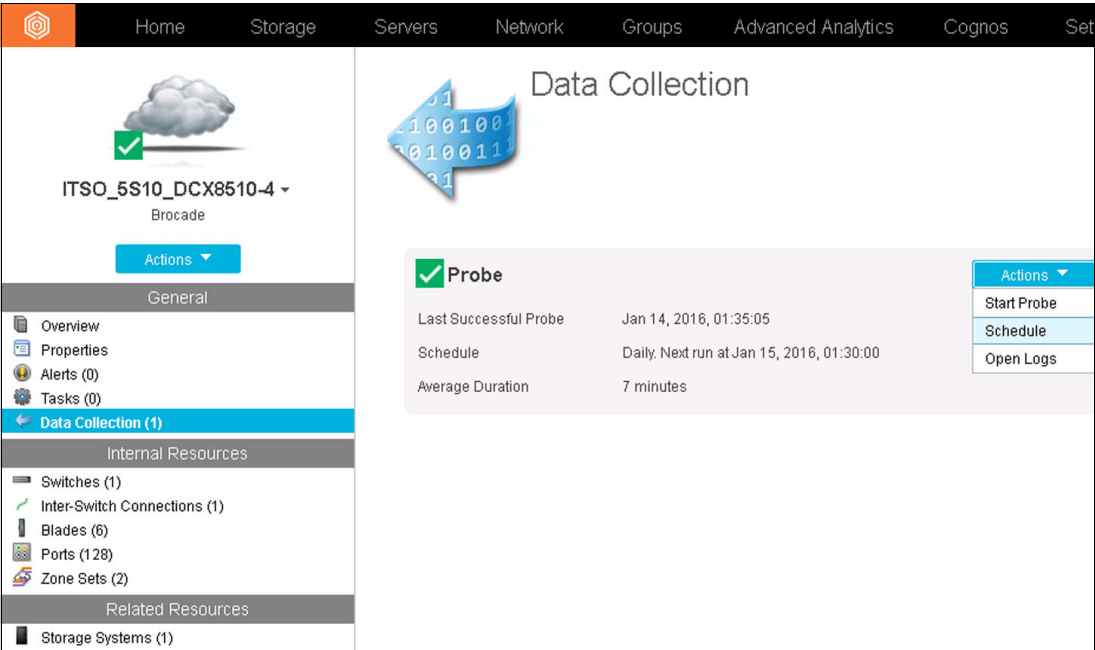

Figure 6-31 Main view of the Data Collection section
- Data Collection: Presents information about the different data collection jobs for the fabrics in your environment. You can view the status of the most recent run of a probe, start a probe run, schedule a probe, and view the logs for all the probe runs, as shown in Figure 6-31.